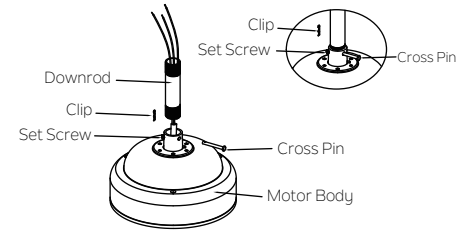

Fig. 7
Step 3. Loosen the two set screws and remove the cross pin and clip on the top coupling of the motor body. Carefully feed the fan wires and safety cable through the downrod. Thread the downrod onto the motor coupling until the cross pin holes are aligned. Next, replace the cross pin and clip, and tighten both set screws. (Fig. 7)